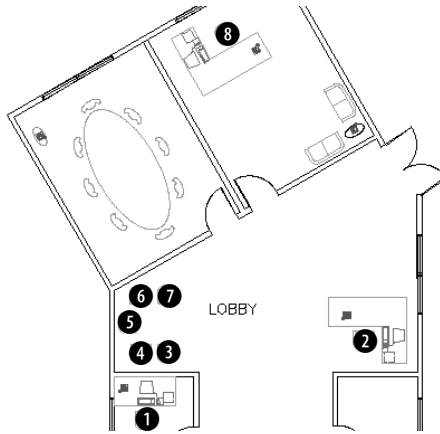

**Figure 18-41:** The office building plan includes several blocks of armchairs with invisible attributes.
1. Open `ab18-j.dwg` from the CD-ROM. This is the same office building plan that you used earlier in this chapter, shown in Figure 18-41. Save the drawing as `ab18-11.dwg` in your AutoCAD Bible folder. Change the current layer to 0.
1. Open `ab18-j.dwg` from the CD-ROM. This is the same office building plan that you used earlier in this chapter, shown in Figure 18-41.